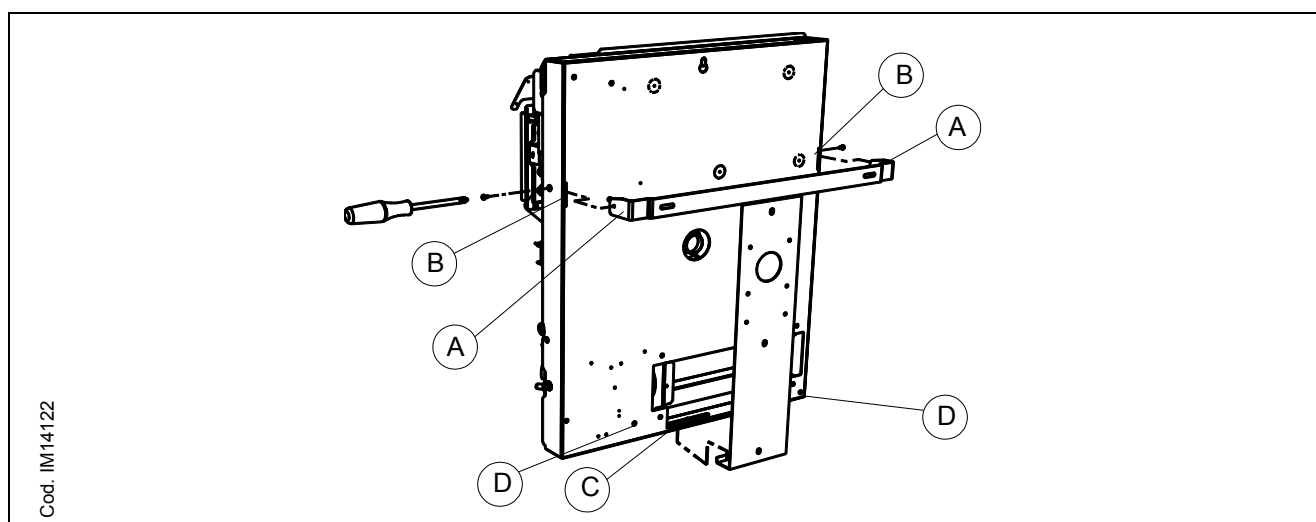
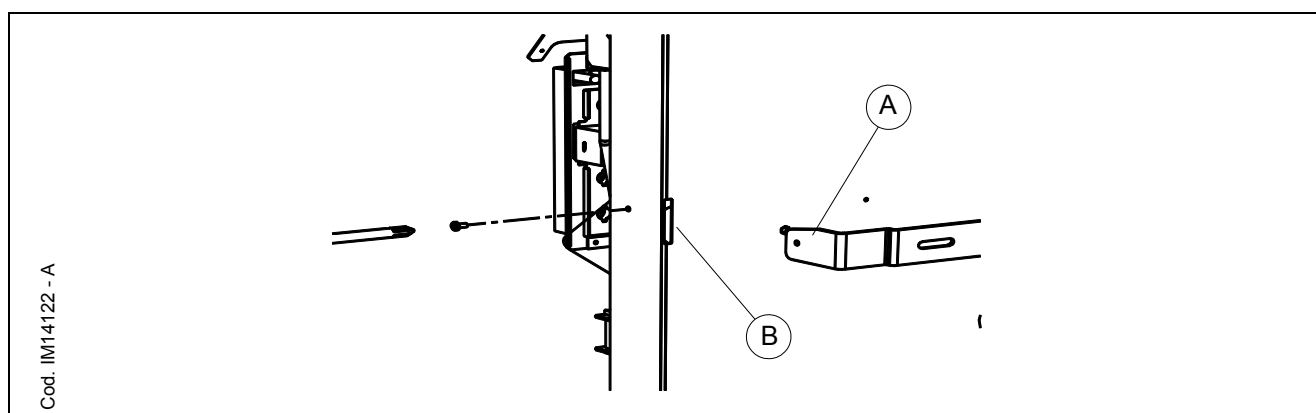

Figure 15 - FIXING OF THE UNIT TO THE SUPPORTING BRACKET 4001, 4002, 5001, 5002 MODELS
Figure 16 - MATCHING HOOKS 4001, 4002, 5001, 5002 MODELS
11. For 4001, 4002, 5001, 5002 models, install the unit to the wall leaning the upper edge of panel C (where the fan is located) to the supporting frame, as indicated in Figure 15). Fix the unit to the matching hooks A, with a light pressure against the wall (see Figure 16). Install the heating body of the unit to the supporting bracket with the two lateral screws (see reference B in Figure 16).